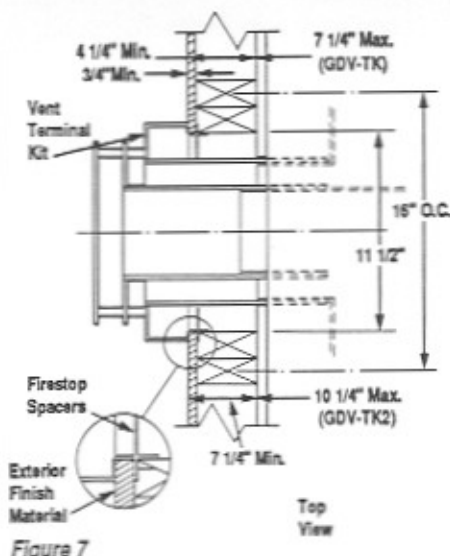
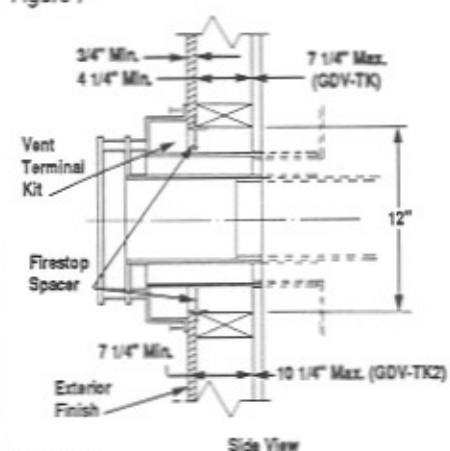

Figure 7
Figure 8
Step 5. Insert vent terminal kit through firestop assembly and connect to appliance outlet collars in manner illustrated in Figure 7. Do not fully engage the vent terminal kit until finished exterior wall surface is applied. At that time, the vent terminal kit can be fully engaged into the appliance collars and secured to the outside wall with 6d nails as shown in Figure 8. To seal kit to wall, silicone caulking should be applied around the entire perimeter of the kit.